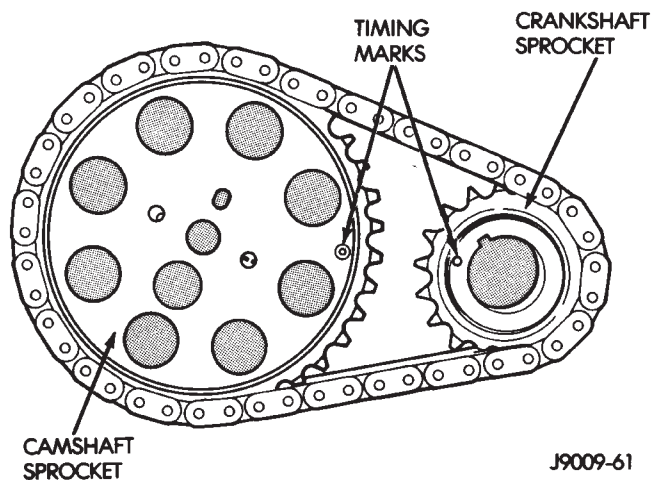

Fig. 46 Timing Chain Alignment—Typical
(7) Remove the serpentine drive belt.
(8) Remove the crankshaft vibration damper.
(9) Remove the timing case cover. Clean the gasket material from the cover.
(10) Remove the thrust pin and tension spring from the preload bolt head.
(11) Rotate crankshaft until the crankshaft sprocket timing mark is closest to and on the center line with the camshaft sprocket timing mark (Fig. 46).
- (1) Clean the camshaft pin hole.
- (2) Compress the center of the replacement spring pin with vise grips.
- (3) Carefully drive the pin into the camshaft pin hole until it is seated.
- (4) Install the camshaft sprocket, crankshaft sprocket and timing chain with the timing marks aligned (Fig. 46).